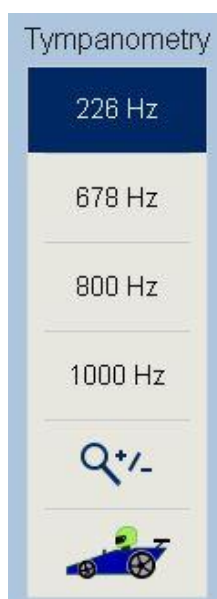

Figure 43
- **RaceCar**  : Licensed function, to display **RaceCar** animation during testing. See section 5.4.4.3 for more information (Figure 43).